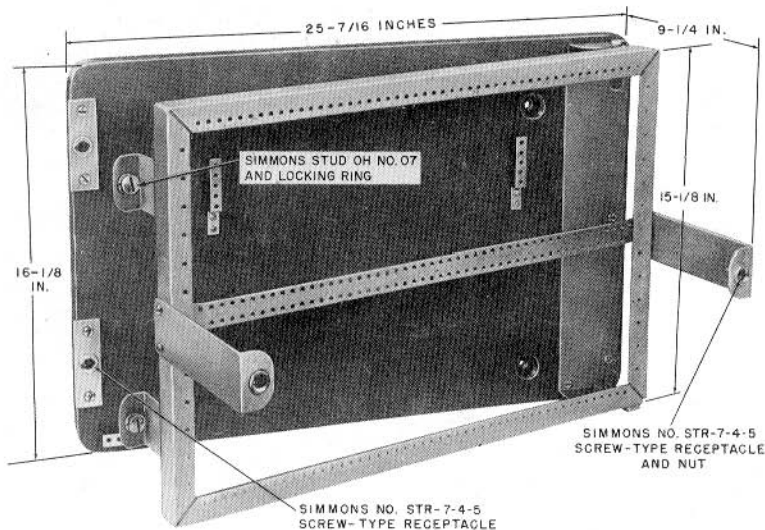

Fig. 4—16A (MD) Apparatus Mounting
**3.02** The 16A (MD) apparatus mounting (Fig. 4) is a hinged metal framework plus backboard used primarily for panel-type 200-series KTUs. It has twice the capacity of the 31A (MD) or 31B apparatus mounting and can be wall-mounted or floor-supported (using ED-95023-70 metal stand). For attaching the hinged gate of the 16A (MD) apparatus mounting to a metal backboard, use the D-179863 kit assembly. This kit consists of a die-cast aluminum backboard as used with the 16C apparatus mounting, a U-channel detail, and two 66B1-25 connecting blocks.